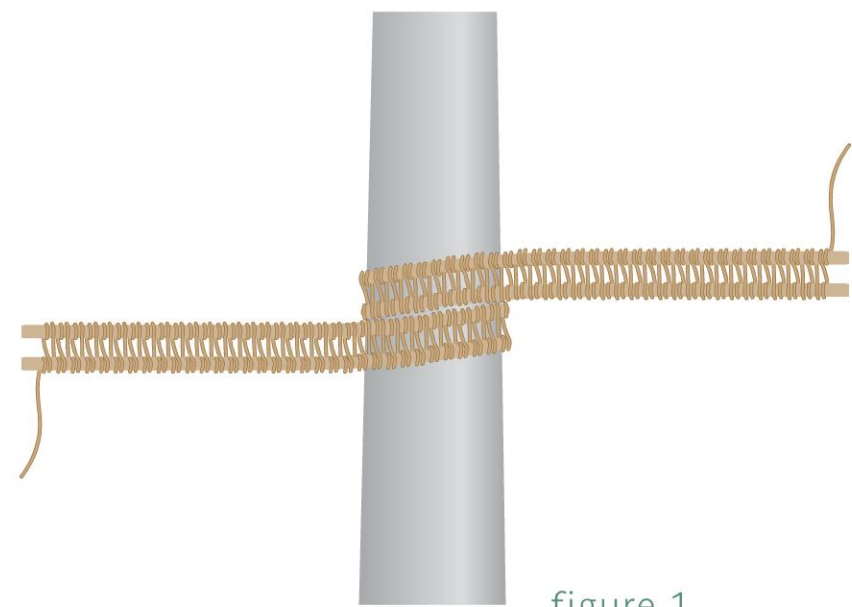

figure 1
- 6 Wrap each frame end around the mandrel so they overlap each other. Use chain-nose pliers to grasp the frame wire ends and pull the frame snugly around the mandrel (Figure 1).